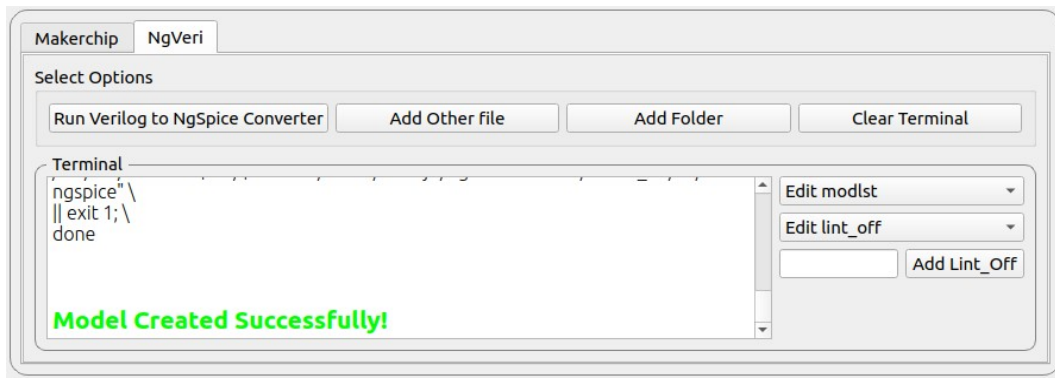

Figure 10.24: NgVeri Model created
5. When the **Model Created Successfully** message appears in the terminal as shown in green color in Fig. 10.24, it indicates that the Ngspice model is created.